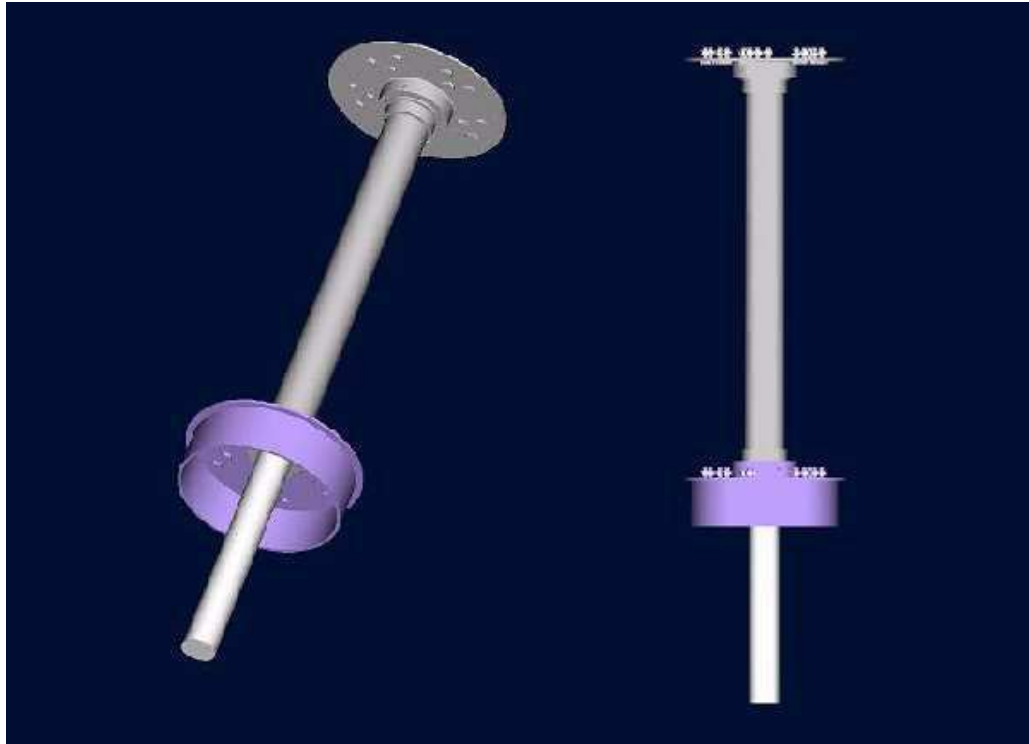

Fig 2
Step 1: Install the Upper Flange and Brake Hub onto the Main Shaft. Fasten them with bolt and Set Screw as shown in Figure 2.